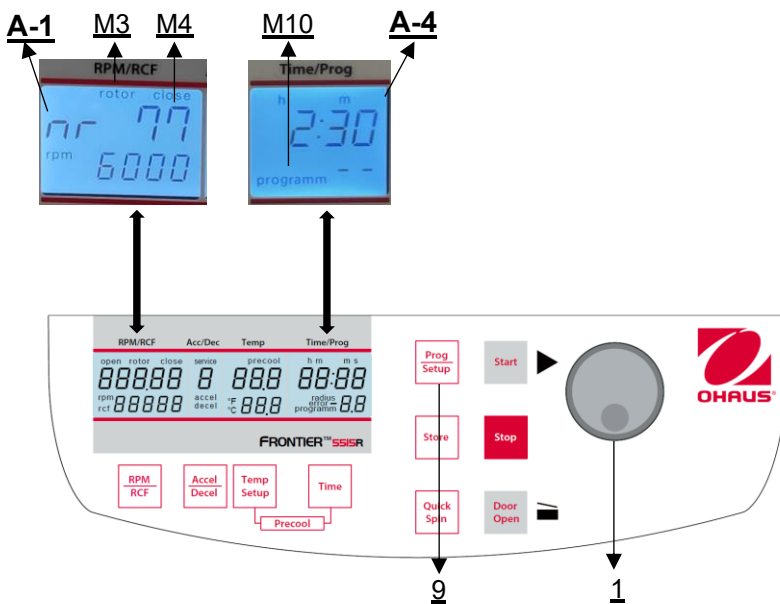

Figure 25
To recall stored programs, press the key **"Prog/Setup"** (9) (see **Figure 25**) while the lid is already closed. Inside the display **"Time/Prog"** (A-4), **"program--"** (M10) appears. The desired program number can be pre-selected with the adjusting knob (1).
To leave the program mode just press the key "**Prog/Setup**" (9) (see **Figure 25**). Then inside the display "**Time/Prog**" (A-1) the word "**programm**" (M10) appears. Set the display to "**programm--**" (M10) with the adjusting knob (1).